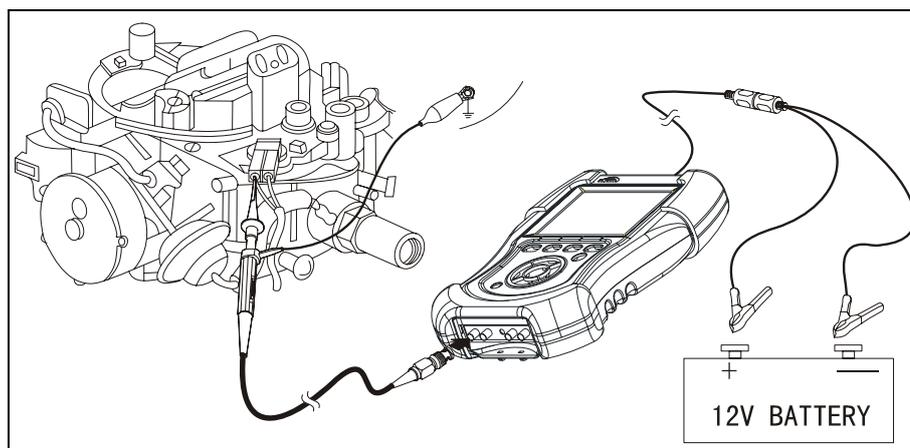

Fig. 4-9
When connecting KT600 to extension line for power supply, choose battery or cigar igniter as power supply according to the battery position of vehicle mode tested. All connecting diagrams in this users manual take power supply by battery as example. If choosing cigar igniter connector, confirm that cigar igniter has 12V battery voltage first. Connect test probe to Channel 1 (CH1 port), and then connect the small alligator clip on test probe to the negative of battery or grounding, pierce test probe into the signal line of solenoid coil for mixing ratio control. Connecting diagram of multi-point fuel injection is shown as Fig.4-9.
1. Connect equipment according to Fig.4-9, switch on power supply switch of KT600;
4. Select SOLENOID COIL FOR MIXING RATIO CONTROL (MC), press [ENTER] button to confirm, and waveform will be displayed on the screen depending on test conditions;